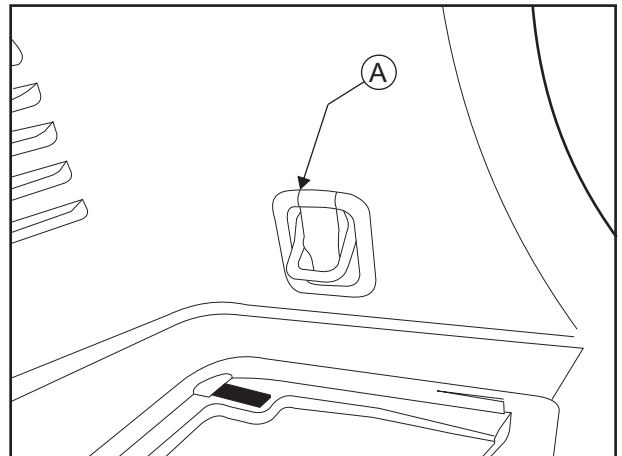

FIGURE 2
8. Using a 10mm socket remove both LHS and RHS child seat restraint anchor from rear corner trim. Refer ( Fig 2 A ).